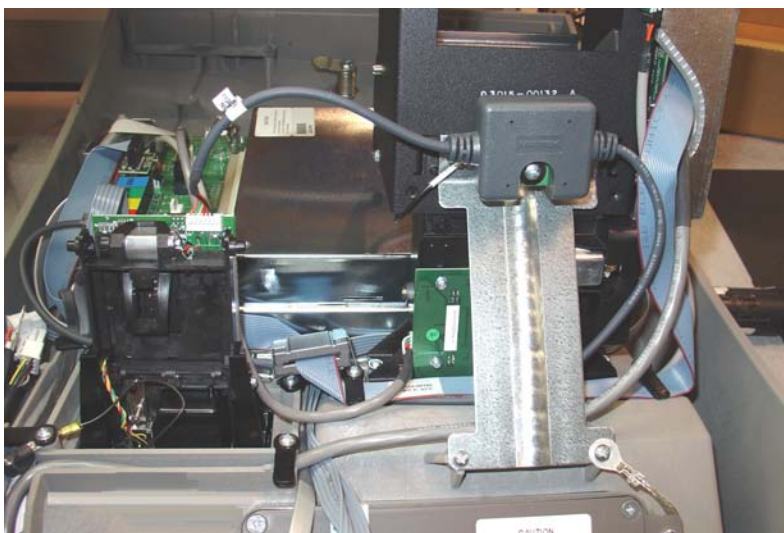

Figure 8. Assembly/cables/TVS installed.
10. Route/secure all cables under the strut bracket. Figure 8 shows cable routing/assembly installed.